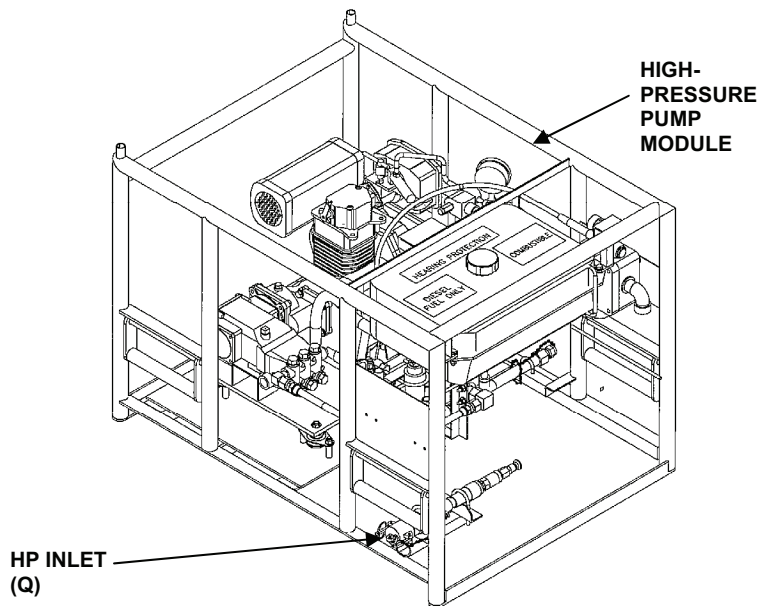

Figure 6. High Pressure Pump Module Inlet Connection.
10. Attach the other end of the (HP) pump feed hose (orange) to the inlet connection of the high-pressure pump Module (Q). See Figure 6.